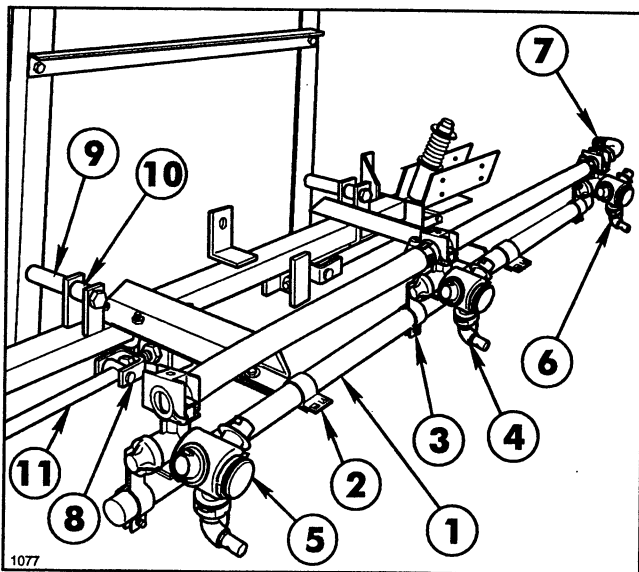

FIG. 12
4. Position the spacer tubes between the boom mount upright angles and the lug on the main frame tube. Use (2) 1/2" x 4" hex hd cap screws and locknuts to secure the main frame to the uprights (FIG 12).
6. Center and attach the center boom pipe to center boom angles with two clamps, 3/8" x 1" hex hd cap screws, washers and lock nuts. See FIG. 12.
1. Loosely attach the double barb turret assembly in the approximate center of the center boom pipe. For most uniform spray coverage, position all turret assemblies as shown in FIG 12.
2. Loosely attach a single barb turret assembly to LH end of the center boom pipe. Loosely attach threaded turret assembly to RH end of the center boom pipe. Place two hose clamps on the two 3/4" x 19" jumper hoses and connect the two "end" turret assemblies to the double barb turret assembly. Turret assemblies should be level and spaced on 20" centers. Install 90° 3/4" hose barb on RH turret assembly. Tighten all fasteners securely (FIG. 12).
3. Attach the strut assemblies to the adjustable clevis assemblies found on each side of the main frame tube with (2) 1/2" x 2" clevis pins and (2) 1/8" x 1" cotter pins. See FIG. 12.
8. At the adjustable clevis assemblies (FIG. 12), adjust the booms to the level position by adjusting the jam nuts to the desired position, then tighten the end nuts against the boom frame support member.